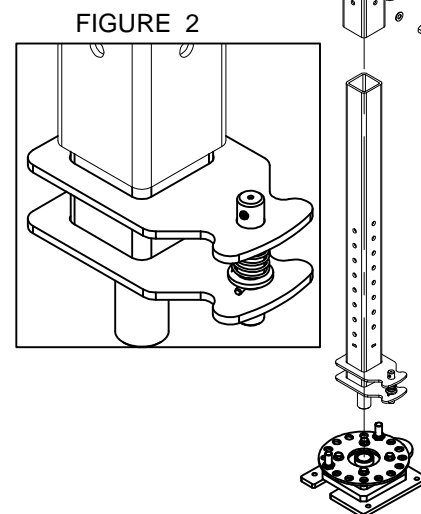
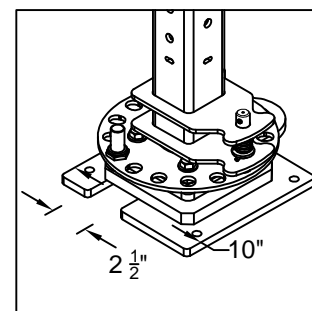

FIGURE 2
FIGURE 3
1. Slide Lower Mast into upper structure and leave loose (see figure 2). Install Lower Mount (making sure it is oriented correctly) onto the lower pivot shaft located at the bottom of the lower structure (see figure 3).